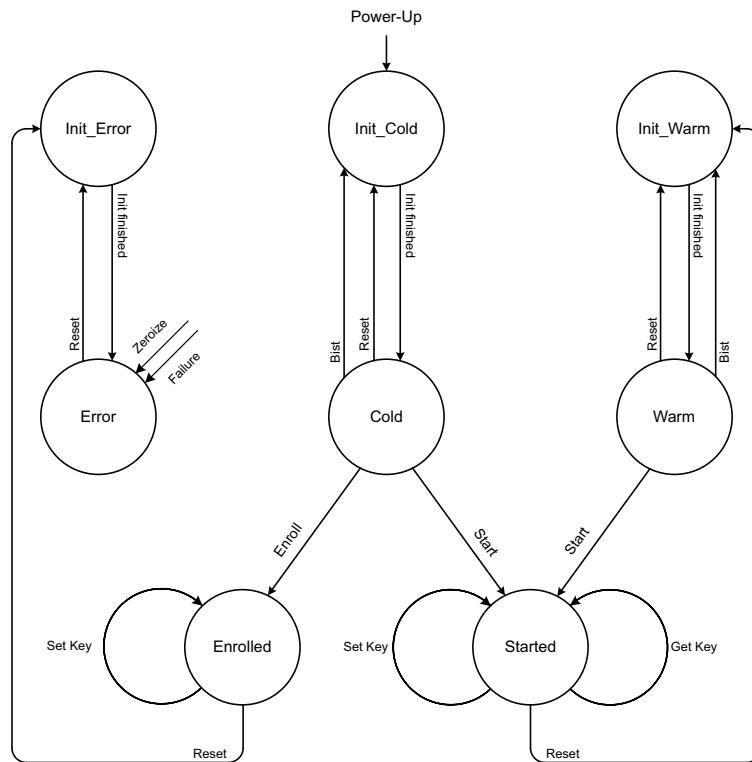

Fig 184. Possible flows, states, and actions
After power-up or reset the PUF controller starts in one of the three Init states, depending on its previous state. See Figure 184. It first initializes itself (indicated by BUSY = 1).
3. After the operation is finished the PUF de-asserts BUSY and asserts SUCCESS, signaling that the Start operation has completed successfully. When ERROR is asserted, instead of SUCCESS, the provided activation code does not match the device. In this case the PUF goes to the Error state. See Figure 184 and Section 48.10.7.13 "Error response".
3. After the operation is finished BUSY is de-asserted and SUCCESS is asserted. It indicates that the Get Key operation has completed successfully. If ERROR is asserted instead of SUCCESS, the provided key code does not match the device. In this case no key is provided and the PUF controller goes to the Error state. See Figure 184 and Section 48.10.7.13 "Error response".